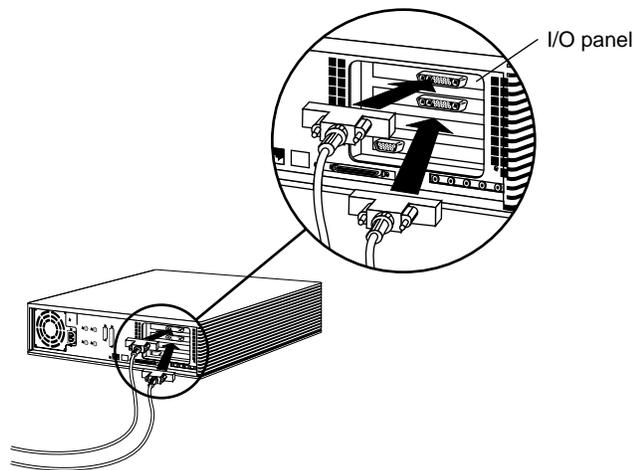

Figure 3-4 Identifying the I/O Panel Connectors
3. Connect the other end of the primary and secondary monitor cables to the appropriate connector on the back of the Indigo² IMPACT chassis. See Figure 3-4 for an overview of this task.